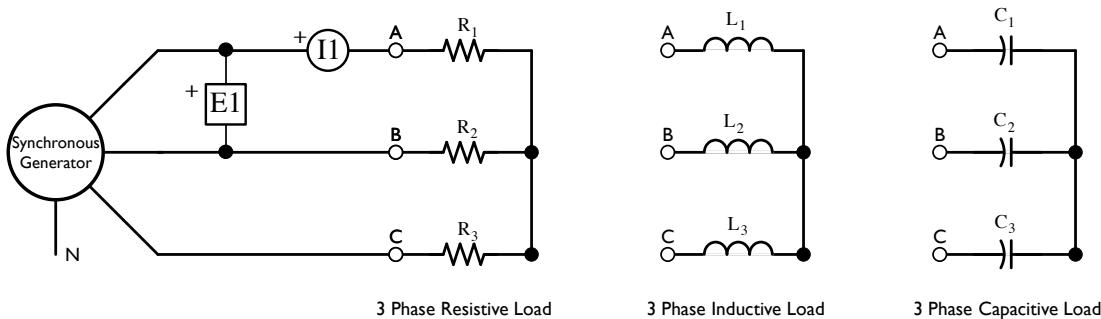

Figure 5.6: Synchronous Generator under Load
25. Remove resistor R_1 from the field circuit, and add a three-phase y-connected resistive load and ammeter to the output of the generator as shown in Figure 5.6.